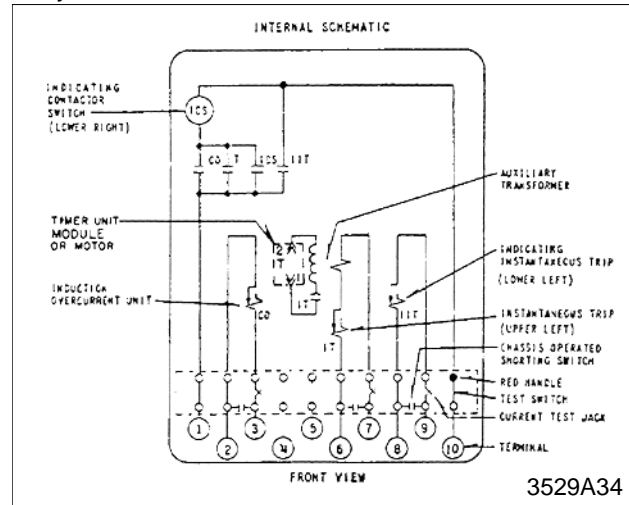

Figure 1: Internal Schematic of the Type CO-4 Relay in Type FT-21 Case.
The type CO-4 relay consists of an overcurrent unit (CO-5), an indicating contactor switch (ICS), an indicating instantaneous trip (IIT) mounted on the left-hand pedestal, an instantaneous trip (IT) and a timer (T). The timer may be either electromechanical with a synchronous motor or solid state with an RC timing circuit. (See figure 1.)